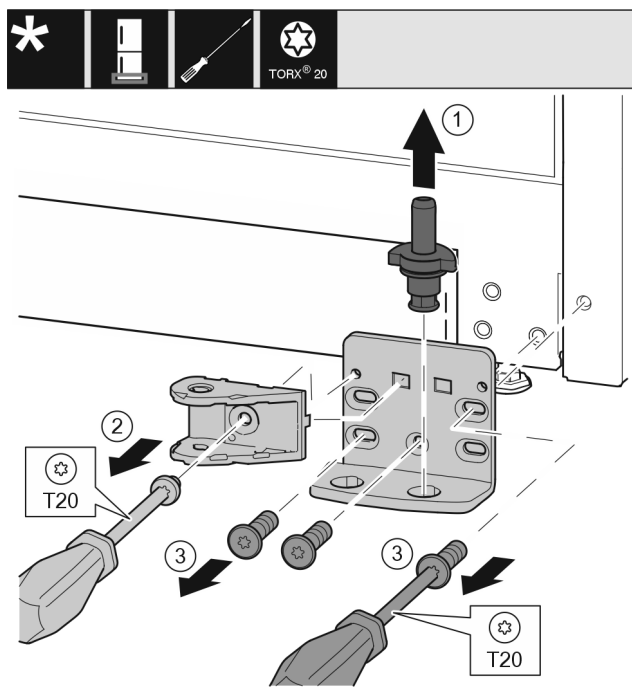

Fig. 37
- Pull the bearing bolt Fig. 37 (1) out upwards completely.
- Use screwdriver to unscrew the screw Fig. 37 (2) and remove the closing damper connection.
- Use screwdriver to unscrew the screws Fig. 37 (3) and remove the swap bearing block.